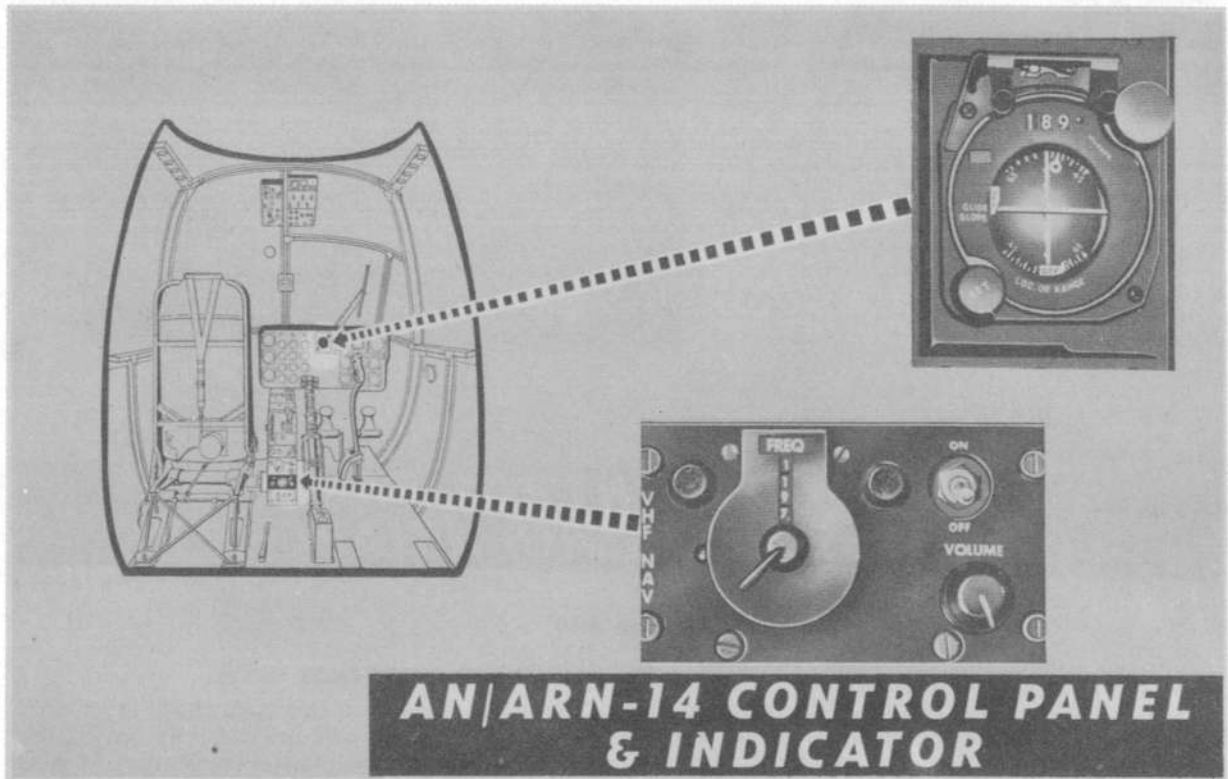

Figure 4-9
The AN/ARN-14 navigation system (figure 4-9) is a radio receiving system which provides all the radio navigational aids now available in the VHF range of 108-135 megacycles.
**COURSE SELECTOR.** The course selector (figure 4-9) is, primarily, an instrument by which the pilot may observe visually the lateral positional deviation from a selected course. The indicator provides facilities for use on all three navigational services covered by the equipment. It consists of a radial selector Set knob (figure 4-9) course marker, to-from indicator, vertical pointer, horizontal pointer, relative heading pointer, flag alarms, and marker beacon indicator.